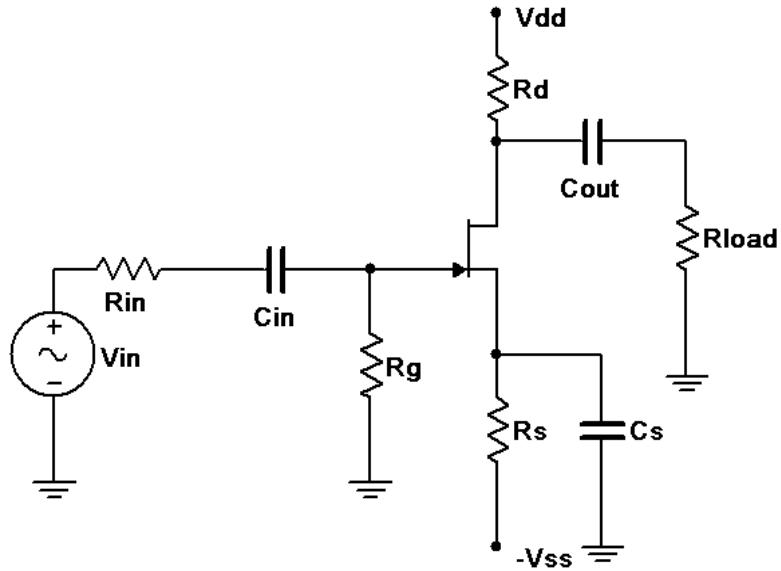

Figure 1
- Consider the circuit of Figure 1 using $V_{dd} = 15$ volts, $V_{ss} = -3$ volts, $R_{in} = 33 \text{ k}\Omega$, $R_g = 330 \text{ k}\Omega$, $R_s = 4.7 \text{ k}\Omega$, $R_d = 4.7 \text{ k}\Omega$, $R_{load} = 22 \text{ k}\Omega$, $C_{in} = C_{out} = 10 \mu\text{F}$ and $C_s = 470 \mu\text{F}$. Assuming $V_{GS} = -2$ volts and $g_m = 2 \text{ mS}$ (4 mS if using the J112), determine the theoretical gain and input impedance of the circuit and record these in Table 1.
- Build the circuit of Figure 1 using $V_{dd} = 15$ volts, $V_{ss} = -3$ volts, $R_{in} = 33 \text{ k}\Omega$, $R_g = 330 \text{ k}\Omega$, $R_s = 4.7 \text{ k}\Omega$, $R_d = 4.7 \text{ k}\Omega$, $R_{load} = 22 \text{ k}\Omega$, $C_{in} = C_{out} = 10 \mu\text{F}$ and $C_s = 470 \mu\text{F}$. Set V_{in} to a 100 mV peak sine at 1 kHz. Measure the voltages at the gate and load, and record these in Table 1. Capture images of the input and gate voltages, and the gate and load voltages. Note whether or not the load is inverted compared to the gate signal.